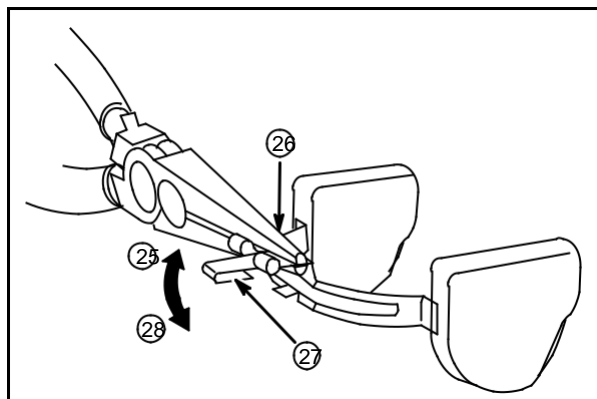

Fig. 93
To adjust float level, hold float arm at (26) with needle nose pliers, **Fig. 93**. Carefully bend tang **CLOCKWISE** (25) to raise the float level, **COUNTER-CLOCKWISE** (28) to lower the float level. **DO NOT** collapse hooked end of float tang (27).